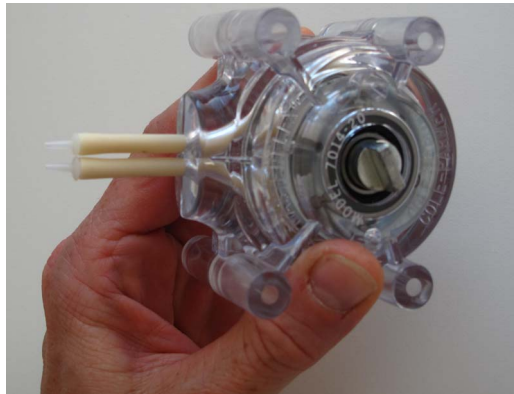

Fig. 5-21: Positioning the upper part of the pump head
- 21** Place the second half of the pump head on the motor shaft. See Fig. 5-21, 89.